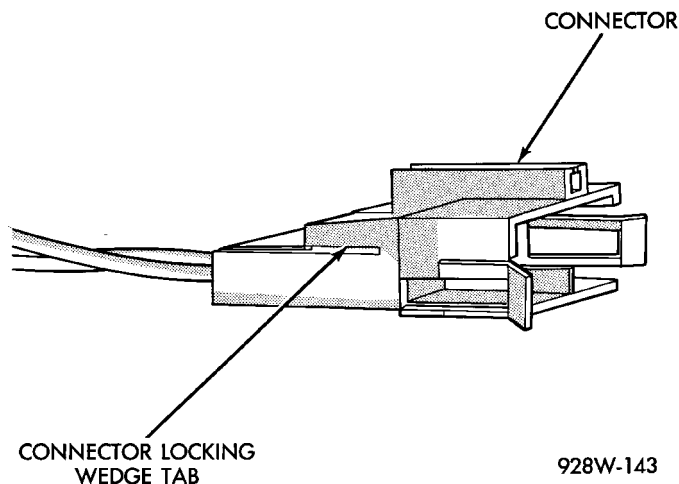

Fig. 20 Connector Locking Wedge Tab (Typical)
(1) Disconnect battery.
(2) Disconnect the connector being repaired from its mating half. Remove connector locking wedge, if required (Fig. 20).
(3) Remove connector locking wedge, if required (Fig. 20).